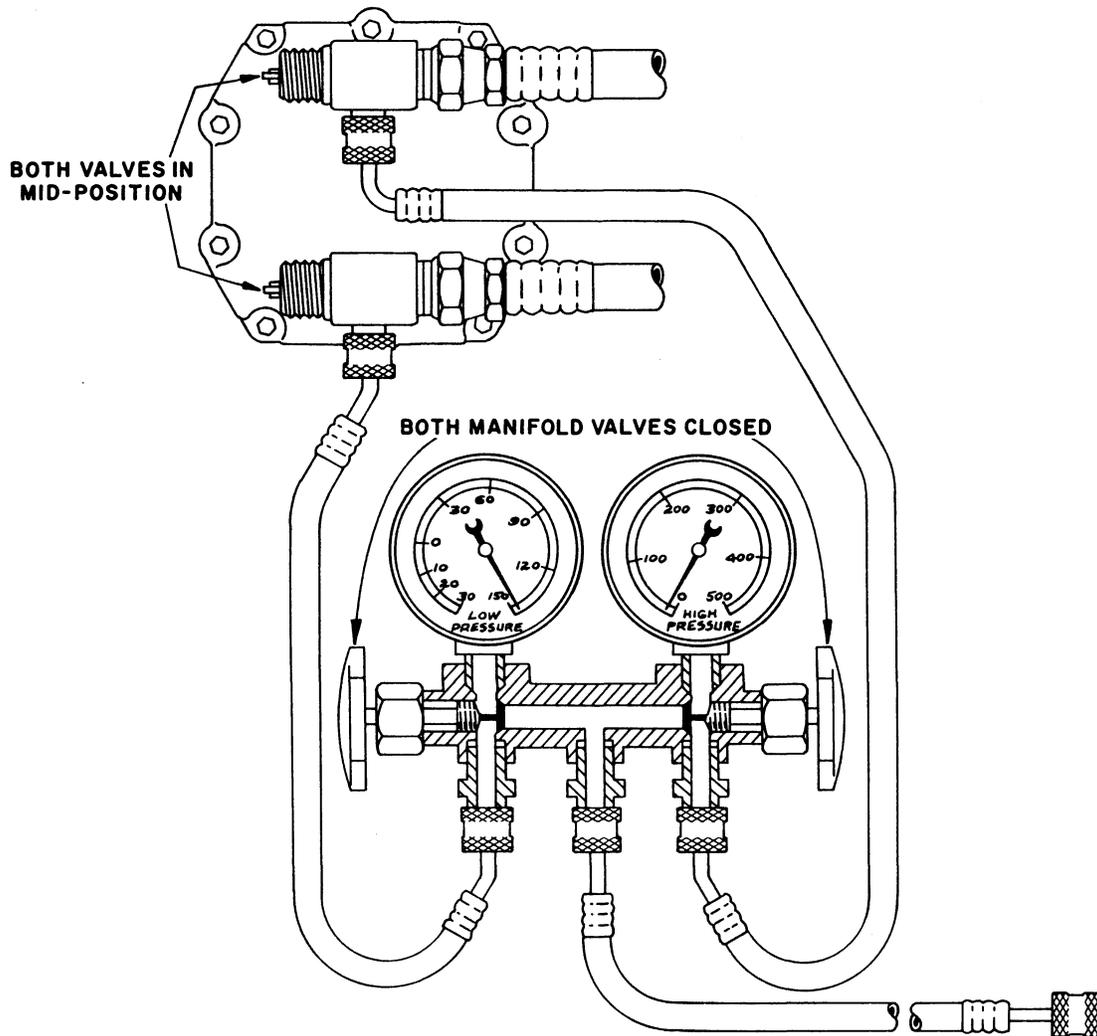

FIGURE 1-5
2. Connect the manifold lines to the valves (Figure 1-5):